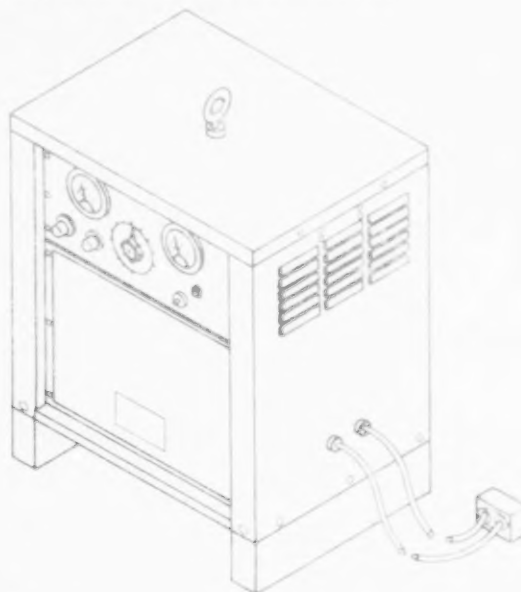

Figure 1-1. Battery Charger PP-2926D/U EL6FX001
a. This manual describes Battery Charger PP-2926D/U (fig. 1-1) and provides instructions for operation, organizational maintenance, and general support (GS) maintenance. It includes a maintenance allocation chart (app D). Instructions are provided for the operator and organizational technician for installation, operation, preventive maintenance, and replacement of parts available at organizational maintenance. Circuit functioning is included for general support maintenance, together with instructions appropriate to these categories of maintenance for troubleshooting, testing, adjusting, aligning, and repairing the equipment and replacing maintenance parts.
b. Select a site that will permit a forklift truck to drive up to the unit. The battery charger is permanently connected to a 10-foot, dc output cable (fig. 1-1) which limits the distance between the battery charger and a forklift truck.